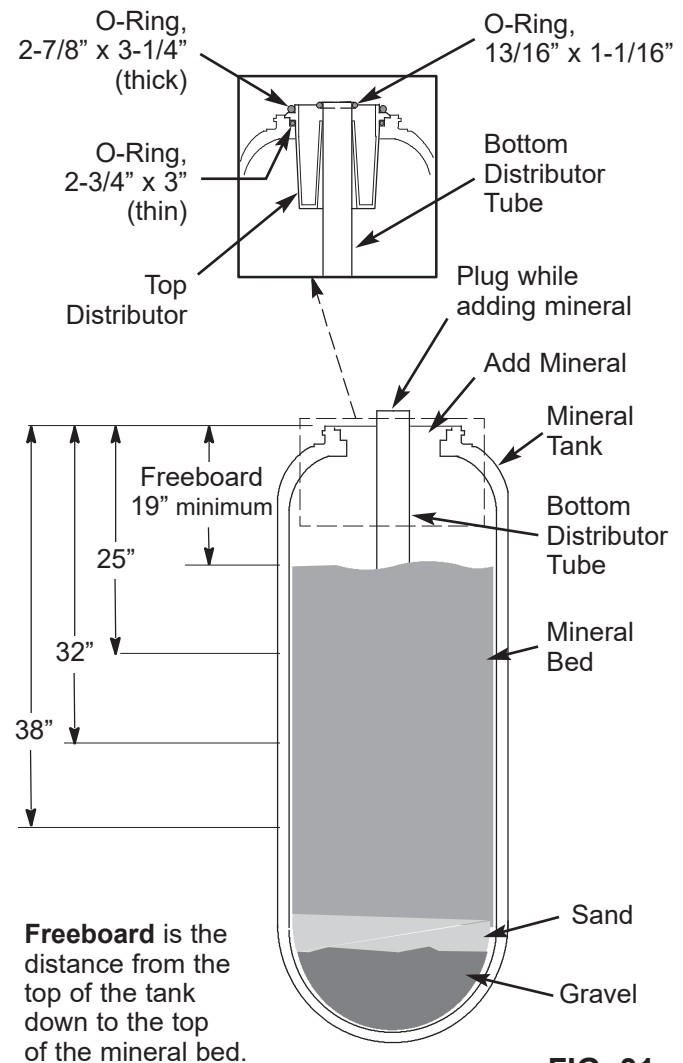

FIG. 31
At this time, take a yard stick or tape measure and measure down to the top of the mineral bed. Use a flashlight so you can see the top of the bed. Measure inches as shown in Figure 31 (see next page).
CAUTION: Do not overfill the tank. Freeboard area (Figure 31, next page) is needed for proper backwash cleaning of the mineral bed.
10. Be sure the three o-ring seals are lubricated (use silicone grease). Then, referring to the inset drawing in Figure 31, place in position along with the top distributor.
drawing in Figure 31, place in position along with the top distributor.